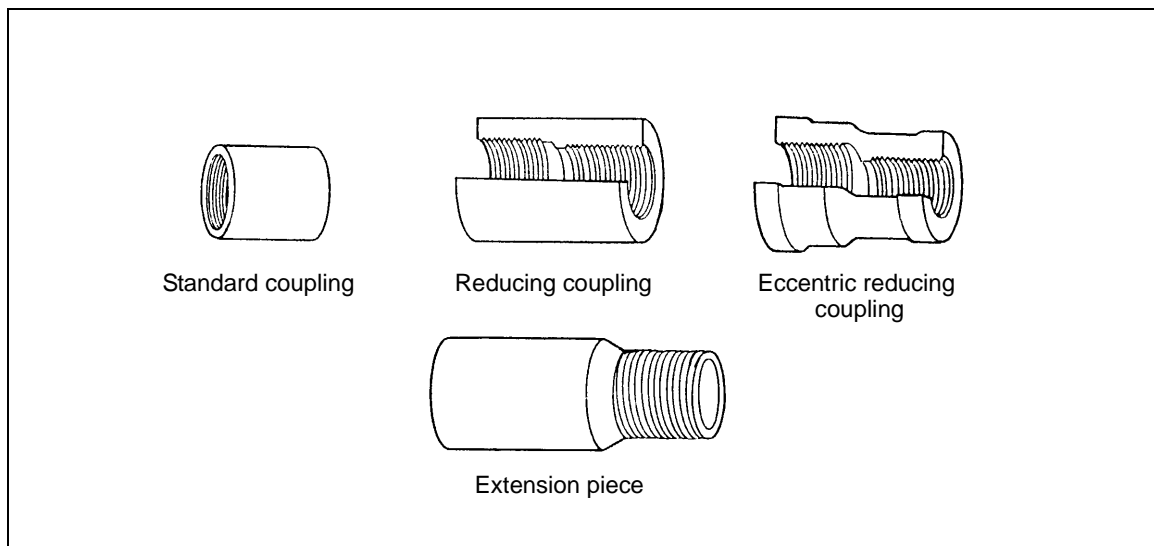

Figure 6-23. Couplings
- 6-51. Couplings (*Figure 6-23*) are used to connect two lengths of pipe.